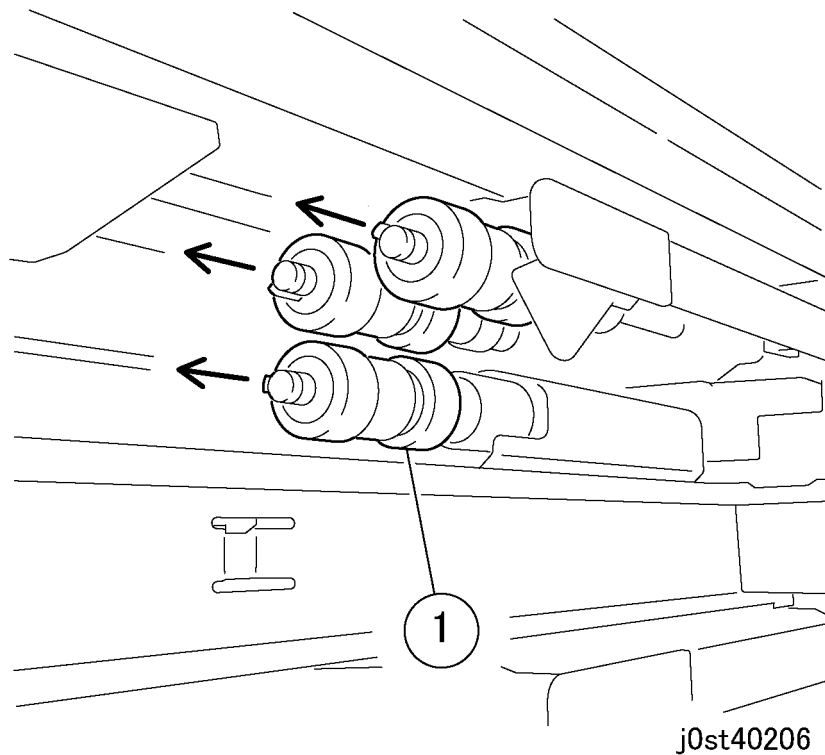

Figure 2 Removing the Feed/Nudger/Retard Roll (j0st40206)
3. Remove the Feed/Nudger/Retard Roll. (Figure 2)